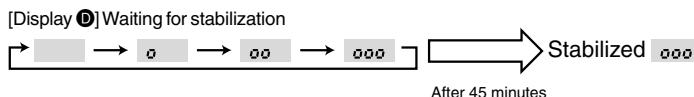

Fig. 8-3
③ Press **FILTER** (\leftrightarrow) button to confirm. (Fig. 8-3)